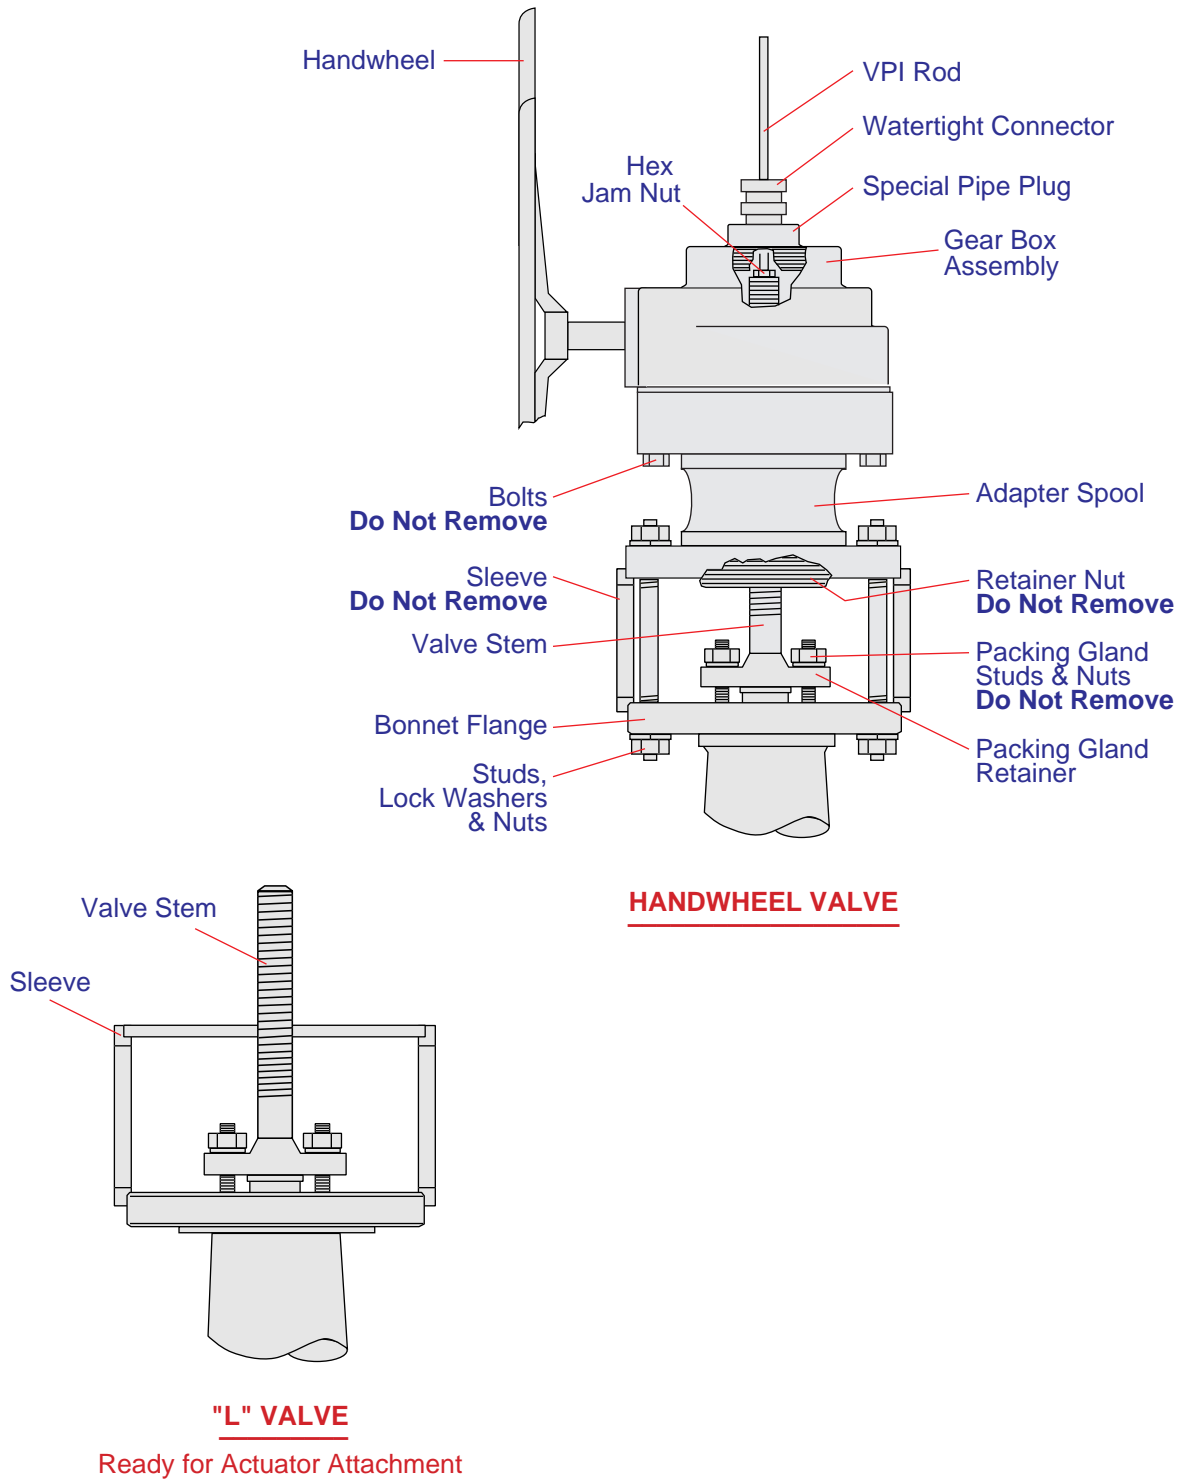

FIGURE 33
Refer to Figure 33 for steps 1 through 5.
10. Check that the packing gland nuts on the valve (see Figure 33) are accessible with a wrench. If they are not accessible, the valve sleeve will need to be rotated until they are.